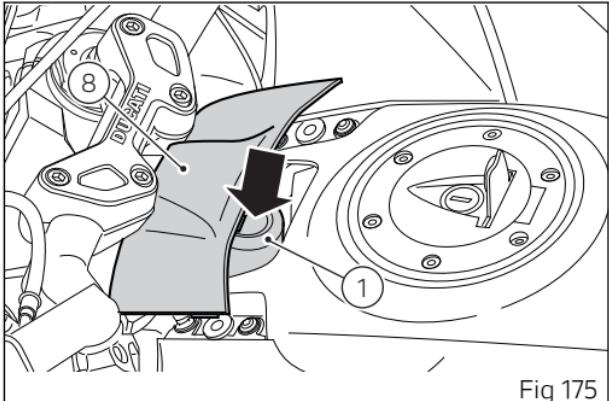
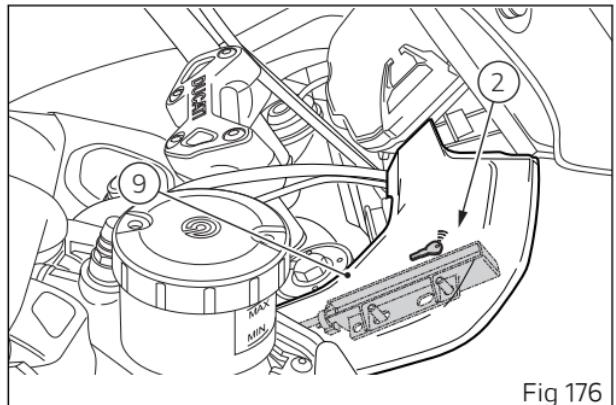
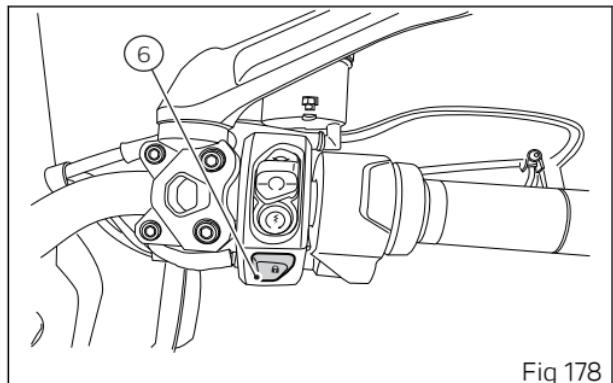

Fig 175
Fig 176
Fig 178
(Fig 175) indicates the position of the Hands Free unit (1), with protection lid (8) and (Fig 176) indicates the position of the antenna (2) under panel (9) at the key symbol.
Key-Off occurs when the speed of the motorcycle is equal to zero, by pressing button (6, Fig 178) on the handlebar or by pressing the Hands free button (1, Fig 175). When speed is not equal to zero, perform key-off by pressing the Hands free button (1, Fig 175).